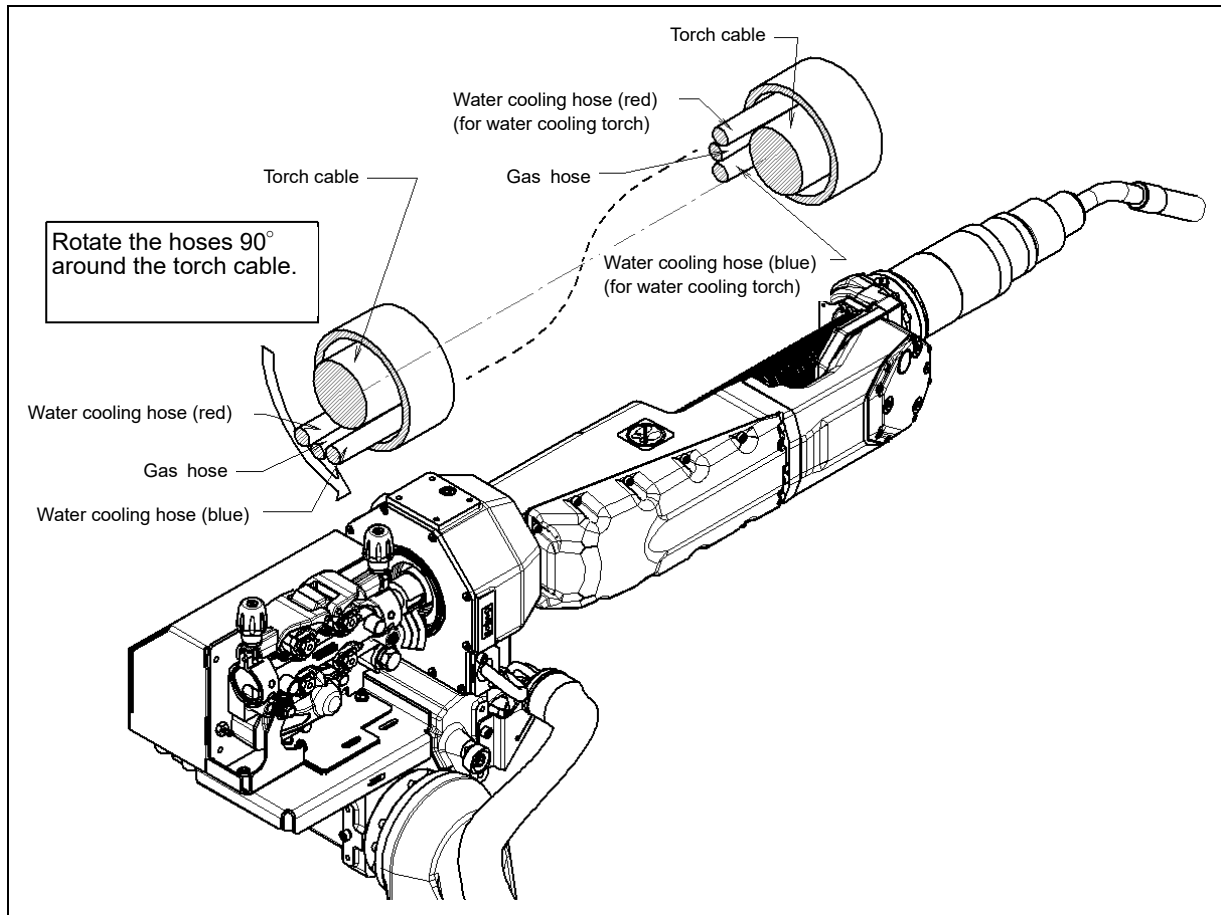

Fig. 7.3 (k) Arrangement of the cables and hoses
- 19 Attach fixation 2 bolts of torch side referring to Fig. 7.3 (d). Tighten black bolt with torque of 7.5Nm.